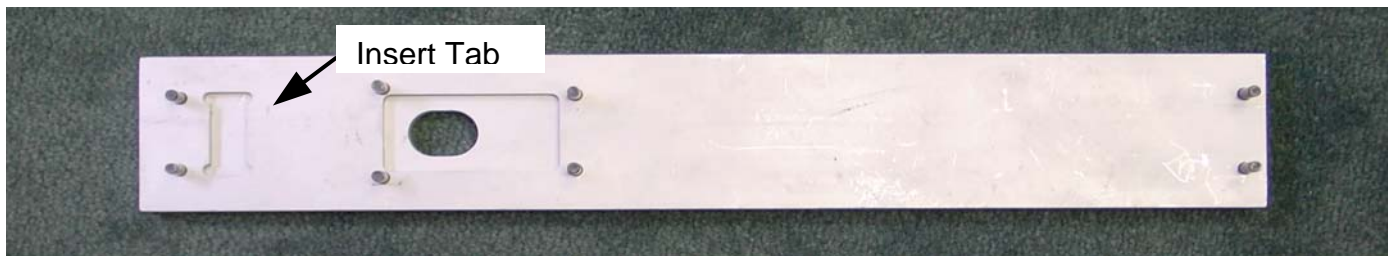

Figure 1
- 1) Using an extension jig as seen in Figure 1, insert a tab into slot. Set the transducer over the tab into the transducer hole closest to the cable exit and **LOOSELY** thread on a nut.